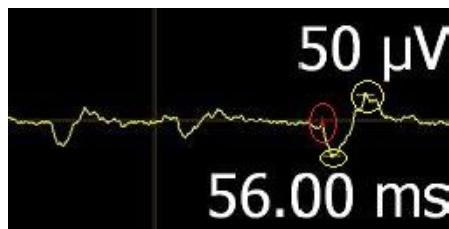

Fig. 89. EMG response markers circled
Basic response detection draws three markers on the EMG curve (Figure 89):
- Red marker: The beginning of the response. Latency is the distance from the stimulus (marked with the vertical line) to the beginning of the response. (56.00 ms in Figure 89.)
- Two yellow markers: Peaks of the response. Peak-to-peak is the distance between the two markers. (50 μs in Figure 89.)
Figure 89 displays the response markers, which can be used to modify the detected peak-to-peak and latency values.